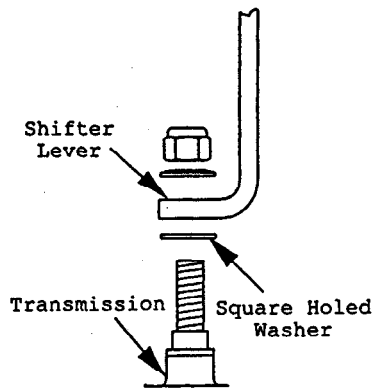

FIG. 8
- a) Remove the 3/8" nylock nut and spring disc washer from the stud on top of the transmission. Install the shifter lever through slot in shifter lever plate and onto the stud on top of transmission. Be sure the square-hole washer remains between the lever and transmission. Replace the spring disc washer and nylock nut (See Figure 8). Torque the 3/8" nut to 35 ft. lbs. (47 N·m).